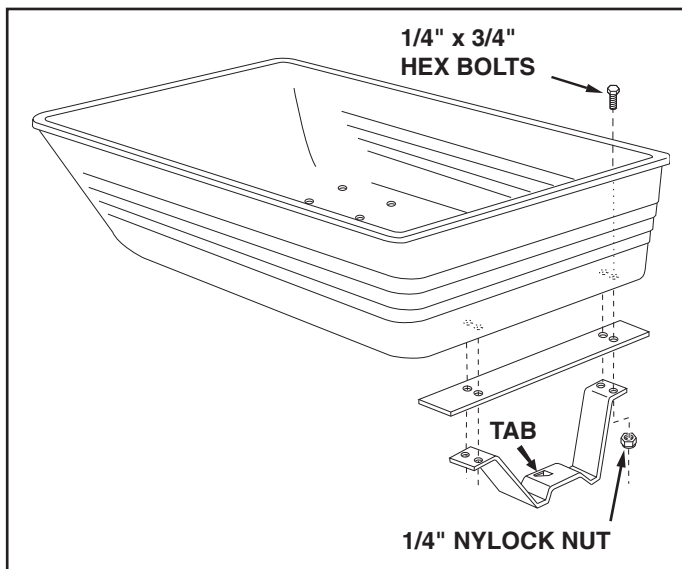

FIGURE 5
- Assemble the latch stand plate and latch stand bracket (with alignment tab toward rear of cart) to the cart tray using four 1/4" x 3/4" hex bolts and 1/4" nylock nuts. Tighten nuts after all bolts are in place. See figure 5.